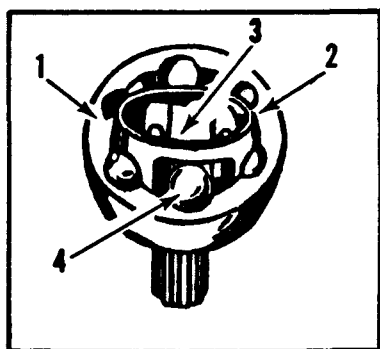

Fig. 4 Joint Assembly
3. Tilt ball race (3) and cage (2), then remove balls (4). (Fig. 4)
4. Align ball race (3) and cage (2), and remove from bell housing (1) (Fig. 4)
5. Disassemble ball cage (2) from race (3) (Fig. 4)